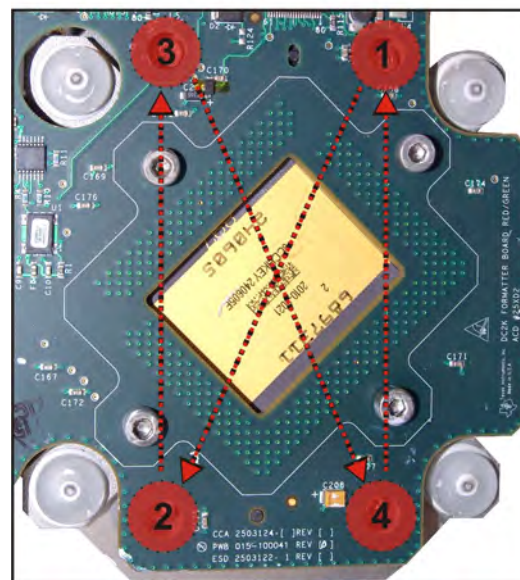

Figure 3-12 Torque Pattern
6. When satisfied with your adjustments (see 3.5.7 Final Convergence Assessment, on page 3-16), carefully tighten the lockdown screws in a “torque pattern” using **Figure 3-12** as an example:
- a. Start with the hardest to reach lockdown screw (**Figure 3-12/1**) to help keep your adjustments set.
- b. “Snug” that screw approximately 1/16th of a turn, then move to the screw in the opposite corner (**Figure 3-12/2**) and snug it 1/16th of a turn as in **Figure 3-12**.
- c. Continue the process by moving to the opposite side (**Figure 3-12/3**), 1/16th of a turn and so on, (**Figure 3-12/4**) repeating the pattern until the four screws are tight. Generally about a full 1/2 turn past the adjustment loosened position or around 8 inch/pounds of torque. **NOTE:** *If you are uncomfortable with the ability to achieve 8-inch/pounds of torque by feel; a torque driver should be used. An approved driver is included in the kit, outlined in Using the Christie Convergence Tool Kit (P/N: 013-100074-xx).*